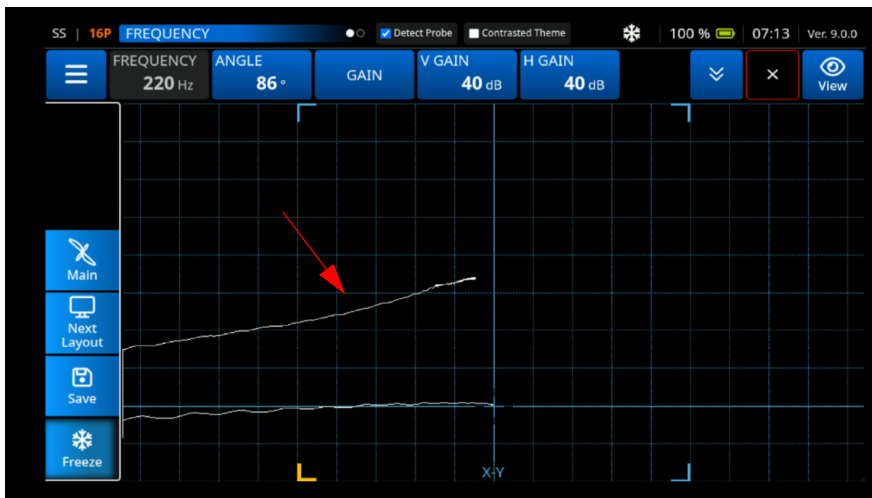

Figure 3-72 Adjusting the Sensitivity Setting
7. Place the probe on the cracked fastener and press **Freeze** (See Figure 3-72 on page 96).